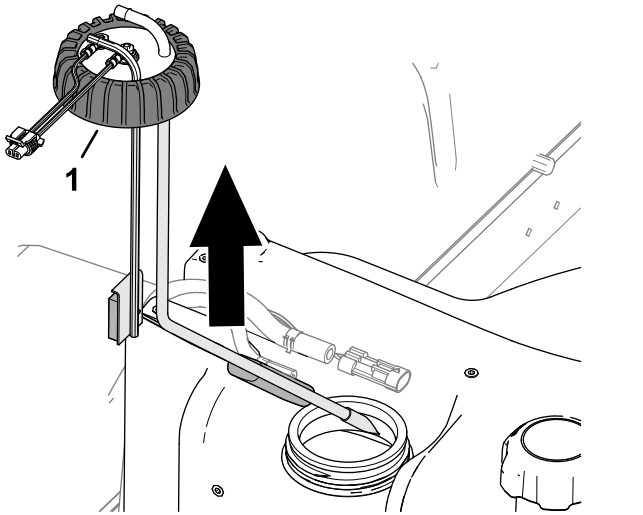

**Figure 84**
4. Move the clamps that secure the hoses to the fittings of the fuel sender inboard, and remove the hoses from the fittings (Figure 84).